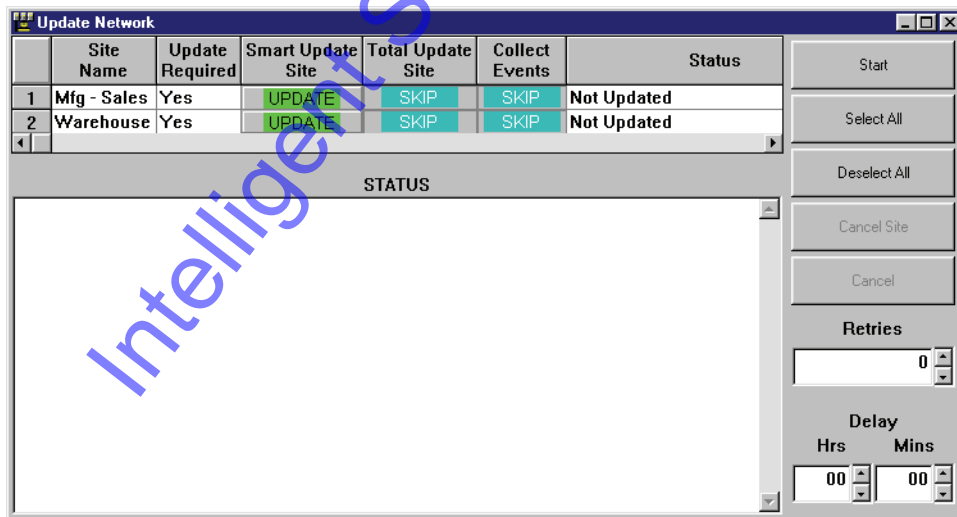

Figure 8-16: Multiple Site Required Network Update
1. Click on the  button on the tool bar. The Update Network window will appear. If changes have been made and the network at any site needs to be updated, the Update Required field will indicate this with a “Yes”, and the Skip/Update toggle box under the Smart Update Network field will indicate “Update” (see Figure 8-16).